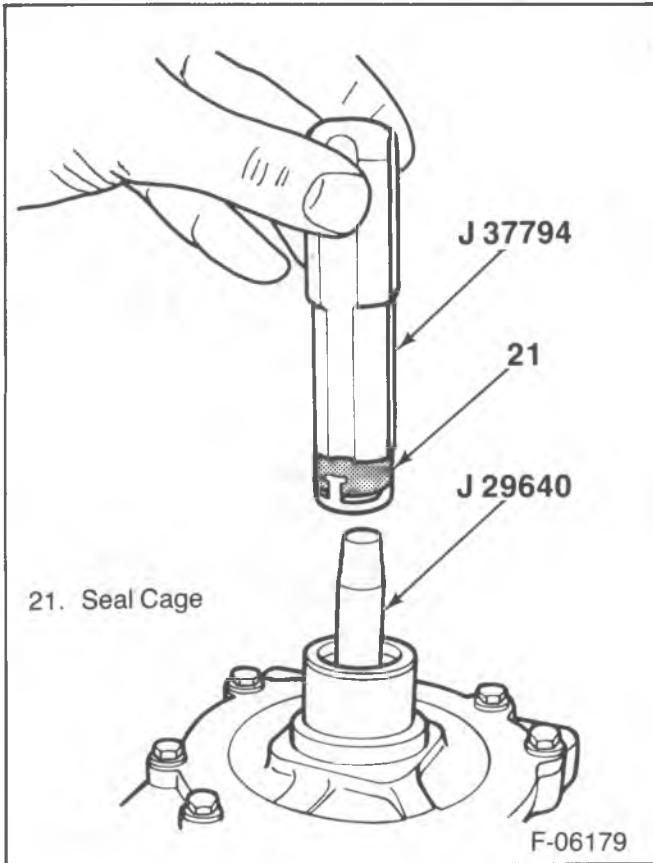

Figure 13—Installing the Seal Cage
- 2. Slots of J 37794 to the new seal cage (21).
- 3. Seal assembly into place in the compressor seal cavity (figure 13).